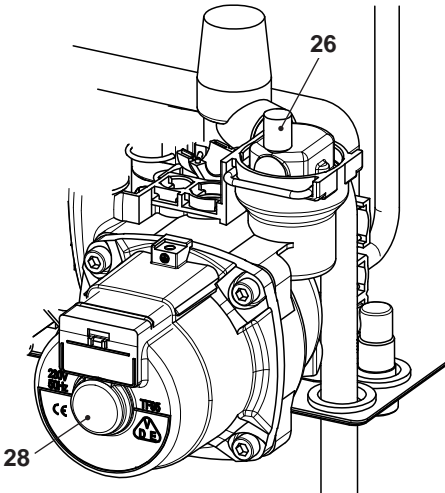

Fig. 7.2
- Lift the plug on the automatic air purger valve 26 in Fig. 7.2 and leave open permanently.
- Purge the air from the pump by unscrewing the pump plug 28 (Fig. 7.2); release the pump shaft by turning in the direction indicated by the arrow on the information plate.